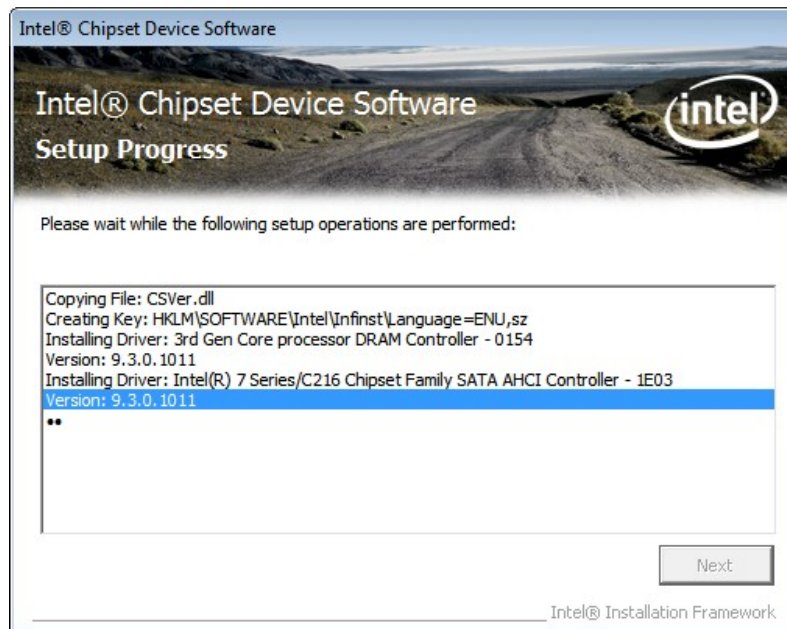

Figure 6-4: Chipset Driver Setup Operations
Step 10: Setup Operations are performed as shown in Figure 6-4.